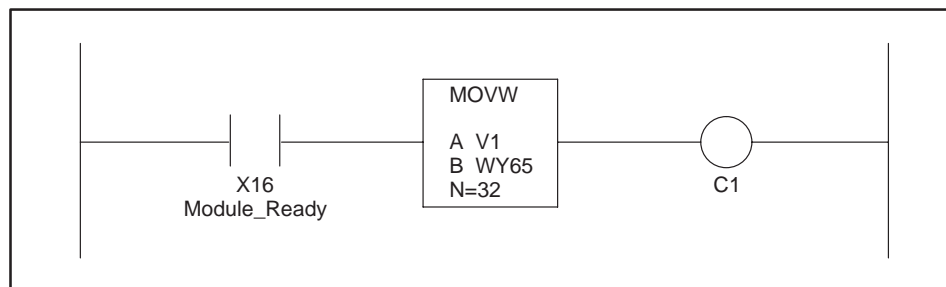

Figure 3-8 The Module\_Ready Bit
2. By monitoring the state of the Module\_Ready flag, data is moved to the WY output registers. See Figure 3-8.